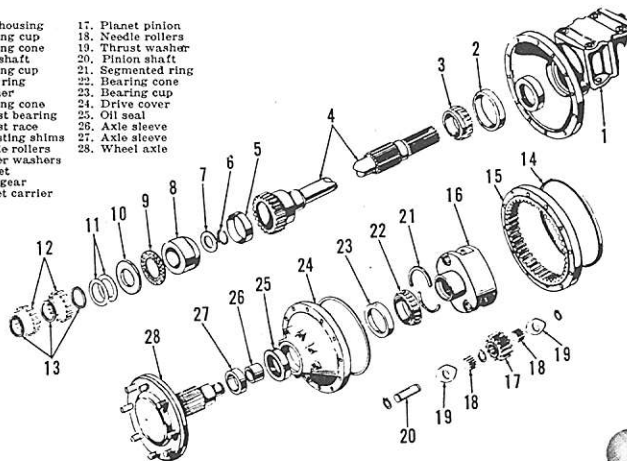

Fig. 243 — Exploded view of two-pin final drive unit used on some tractors. Refer to Fig. 240 for cross sectional view.
212. **TWO-PINION PLANETARY UNIT.** Refer to paragraph 221 for removal procedure of the complete final drive unit, and to paragraph 222 for removal of wheel axle and planet carrier assembly. Refer to Fig. 243 for an exploded view of the two-pinion planetary unit and associated parts.
213. **ADJUSTMENT.** Planet carrier bearing preload of 0.001-0.005 is adjusted by varying the thickness of shim pack (11—Fig. 243). This is normally equivalent to a rolling torque of 5-10 ft.-lbs. measured at wheel axle (28) with complete final drive removed as outlined in paragraph 221.